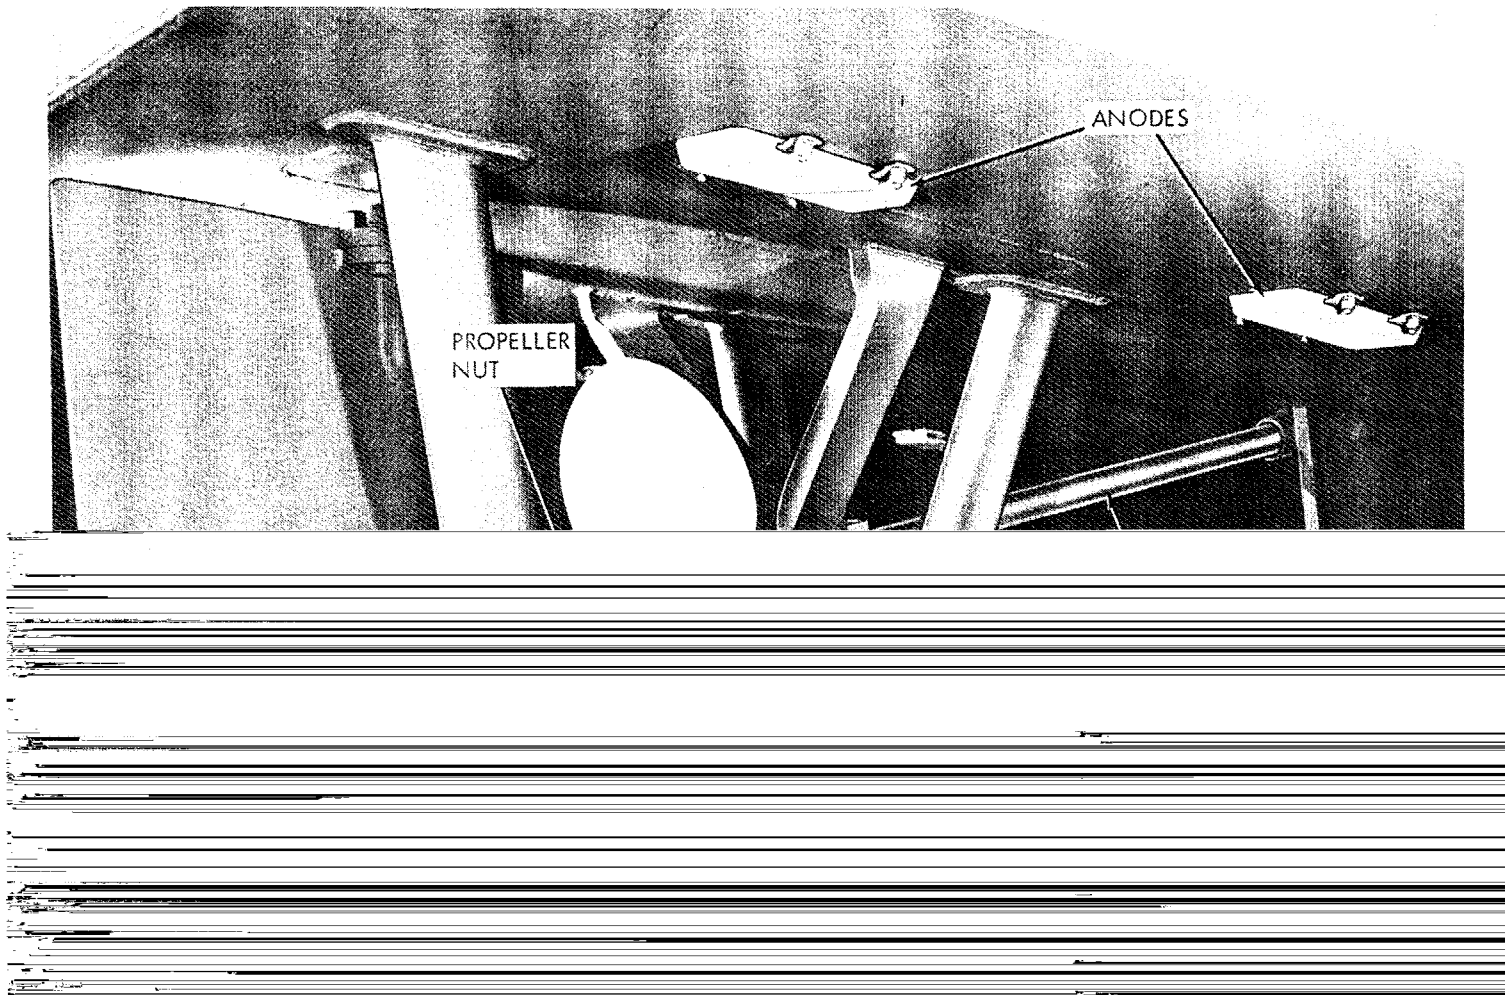

Figure 5-7. Anodes, removal and installation.
b. *Removal.* Remove the mounting nuts from the anode straps and remove the anodes as shown in figure 5-7.
c. *Installation.* Install the anodes as shown in figure 5-7.